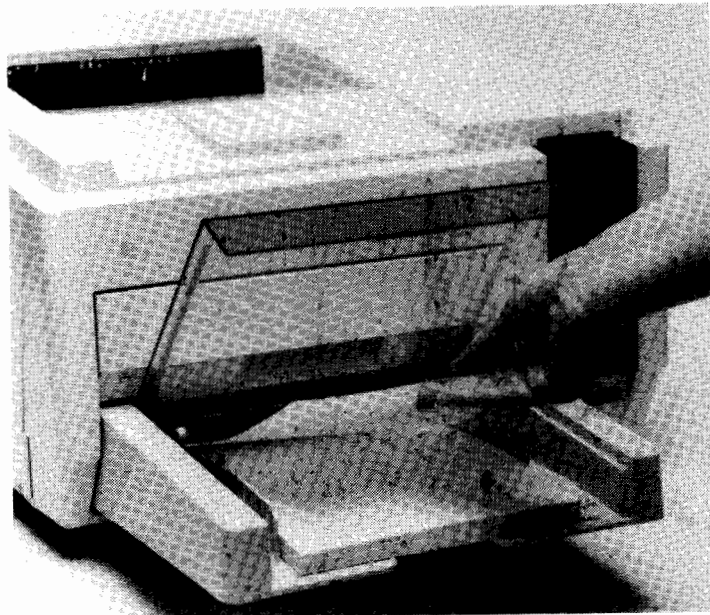

Figure 5-16. Removing Misfed Paper
b. If the paper is misfed here, remove this paper (figure 5-16).